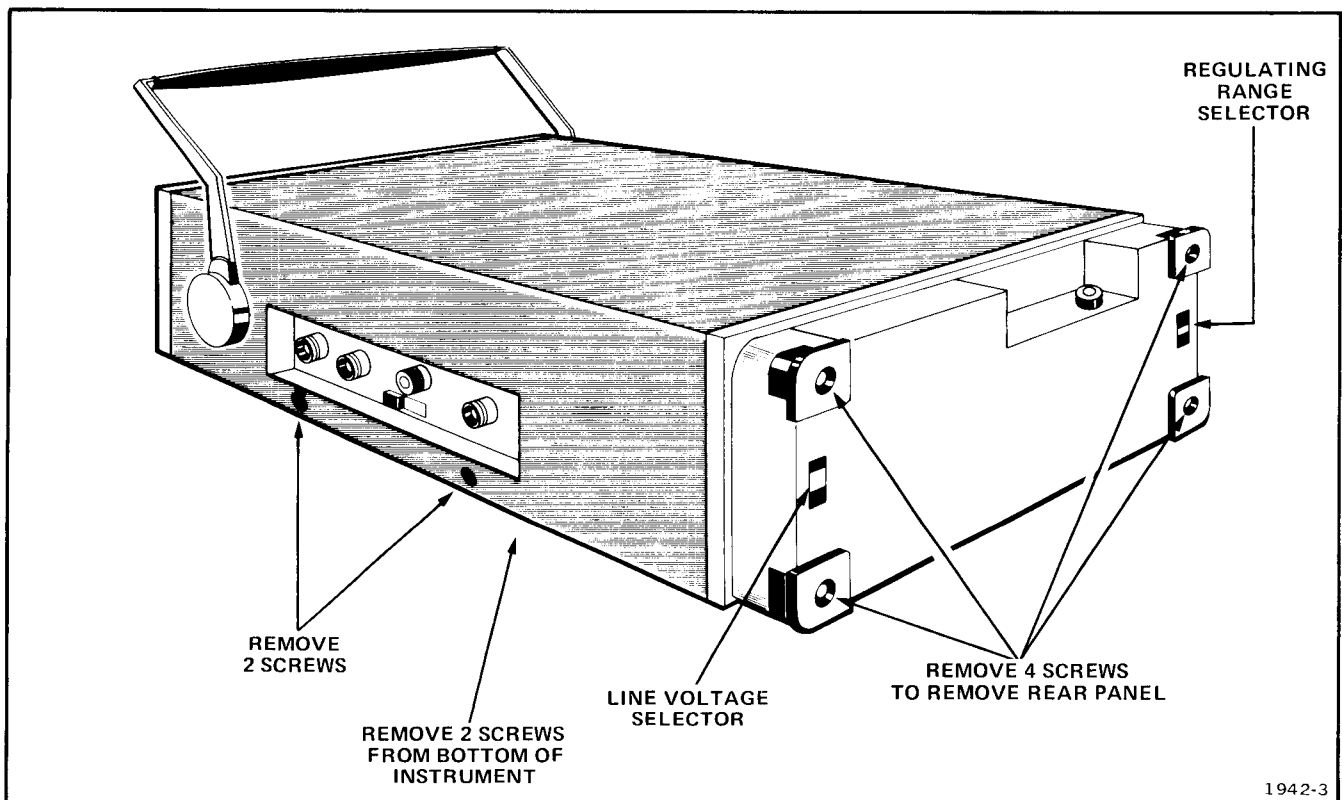

Fig. 4-1. Cabinet removal.
1. Loosen the four screws holding the cabinet feet (cord wrap) and remove the cord-wrap feet (see Fig. 4-1).